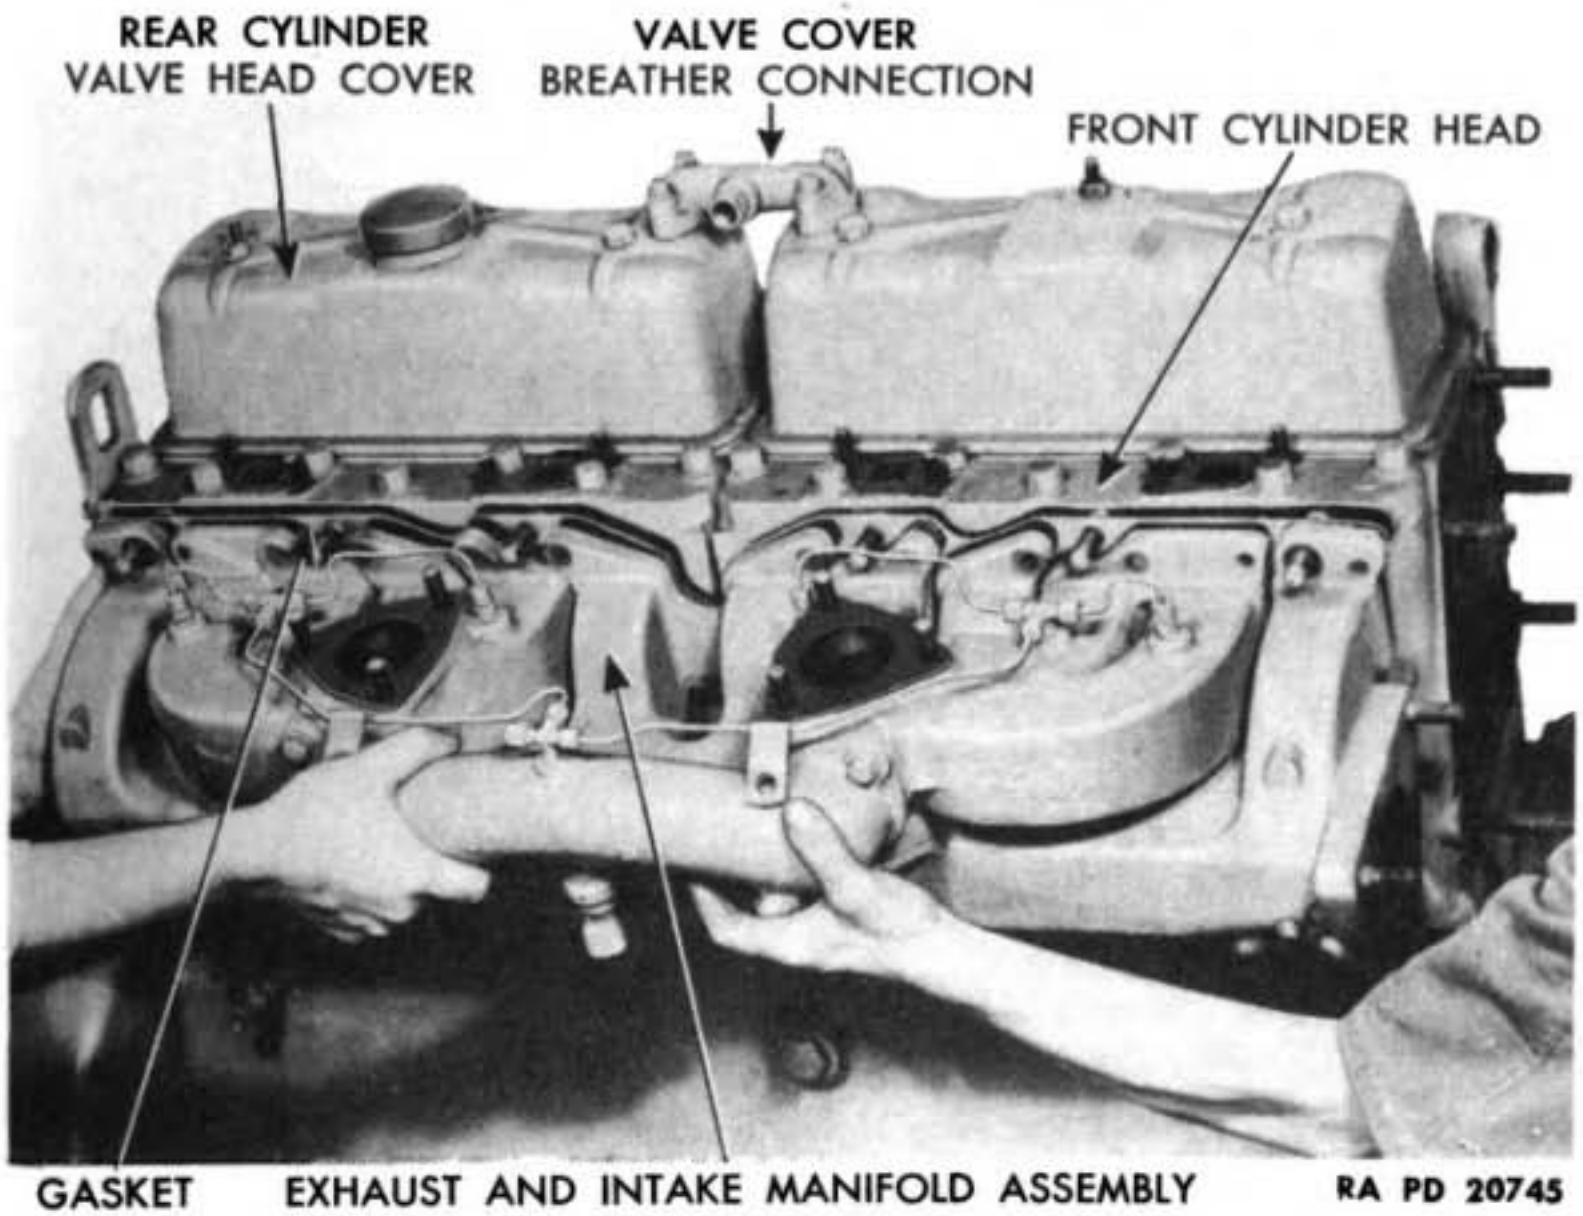

Figure 13 — Removing Exhaust and Intake Manifold Assembly
c. Remove Intake and Exhaust Manifold with Primer Tubes. Remove 15 nuts, 4 plain washers, and 11 crabs holding the intake and exhaust manifold assembly to the two cylinder heads. Lift off the manifold assembly and two gaskets (fig. 13).
cylinder head valve covers, and lift connection off four studs (fig. 13). Remove six screws and plain washers holding two cylinder head valve covers to cylinder heads. Lift off covers and gaskets (fig. 14).